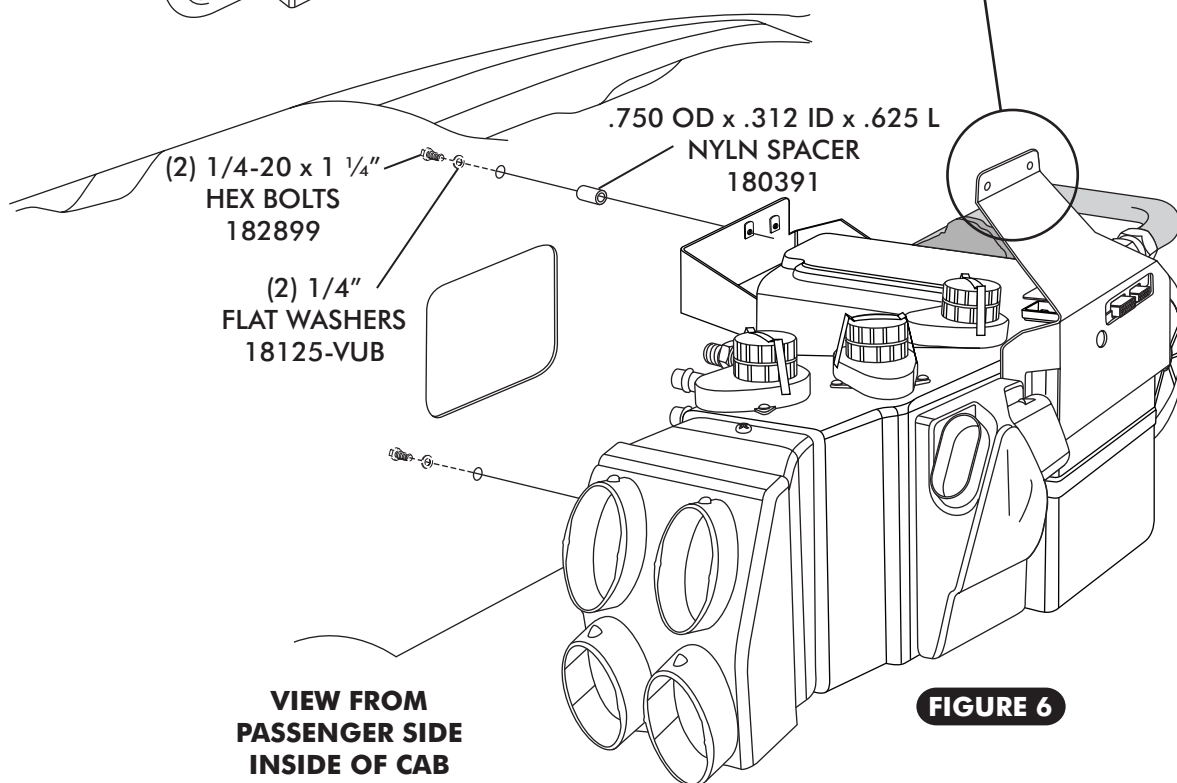

FIGURE 6
- ❑ LIFT EVAPORATOR UNIT UP UNDER THE DASHBOARD. SECURE LOOSELY TO THE FIREWALL USING (2) 1/4-20 x 1 1/4" HEX BOLTS, (2) FLAT WASHERS. SEE FIGURE 6.